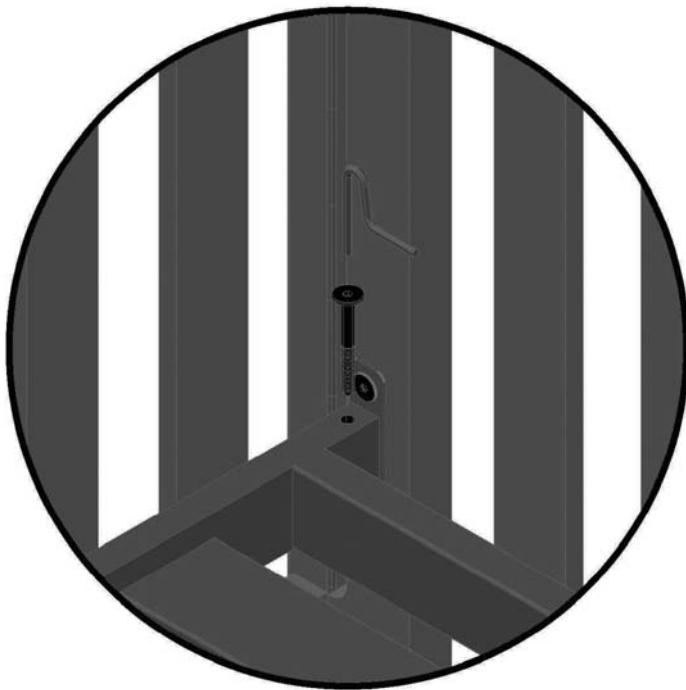

Figure 8.
- Place the Mattress Platform into the support brackets. (Before inserting bolts, make sure the instruction holder and the warning label are facing up and readable as shown in Fig 8.
- Fig. 8 is how your crib should look with Warning labels facing the front of the crib.